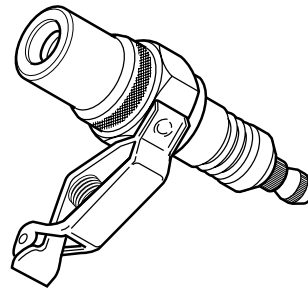

Figure 4-29. Spark Tester (Part No. HD-26792)
- See Figure 4-29. A SPARK TESTER (Part No. HD-26792) must be used to verify adequate secondary voltage (25,000 volts) at the spark plug.